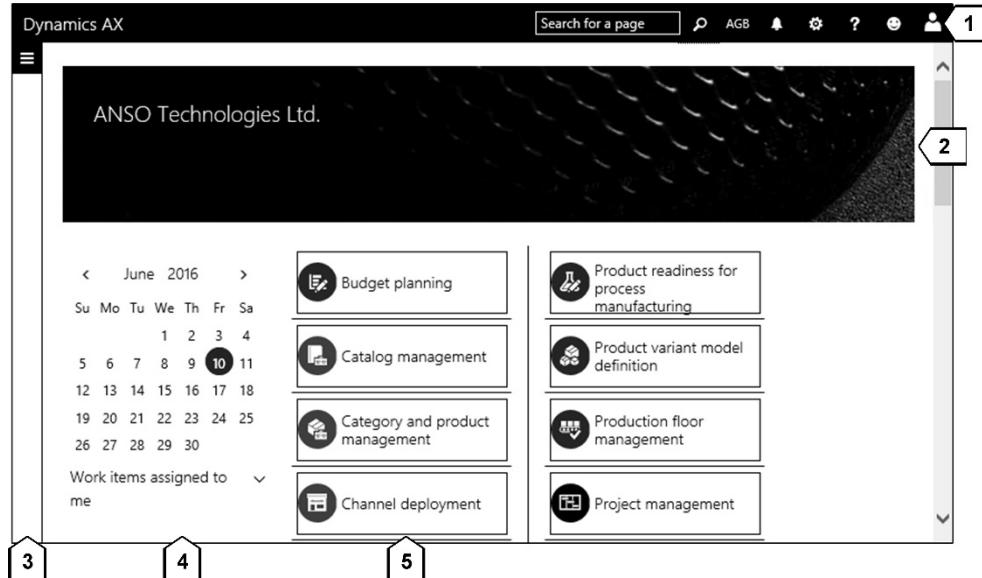

Figure 2-5: Dynamics AX dashboard
As start page in Dynamics AX, the dashboard displays all your workspaces to give an overview of the work you should do by. Clicking a workspace tile, e.g. *Budget planning* in Figure 2-5, provides access to the related workspace.
The default dashboard contains following areas (compare Figure 2-5):
- **Navigation pane [3]** – Collapsed in Figure 2-5